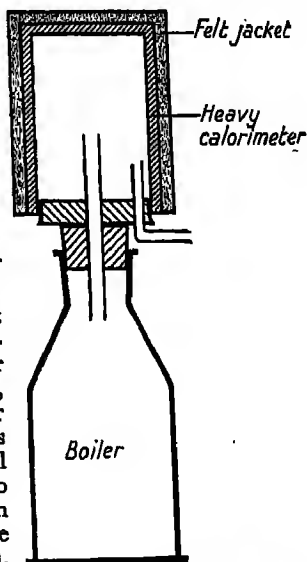

FIG. 236. To find the latent heat of steam.
**Expt. 282.** Use Marshall's thick copper calorimeter. This consists of a thick heavy copper or brass vessel surrounded by a felt jacket to prevent loss of heat (Fig. 236). The calorimeter is fitted with an india-rubber bung through which pass two tubes, one wide and central, the other narrower and turned at right angles away from the centre. The central tube is arranged to fit loosely into the bung of a tin vessel in which water may be boiled. Weigh the calorimeter (without the felt jacket). Replace the jacket. Place a thermometer in the calorimeter for a few minutes and take the temperature.